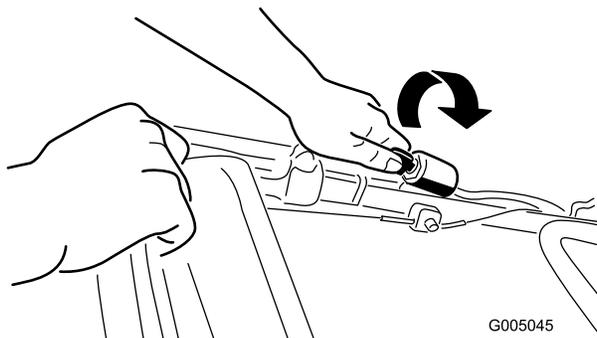
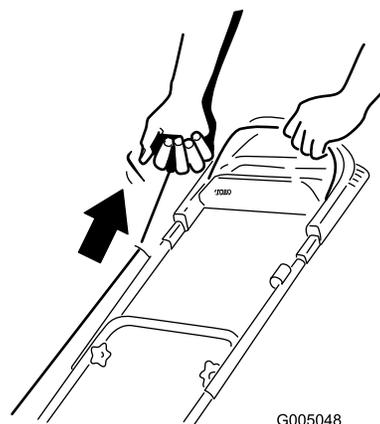

Figure 15
Figure 16
2. Turn the ignition key (Figure 15) (electric-start models only) or pull the recoil start handle (Figure 16).